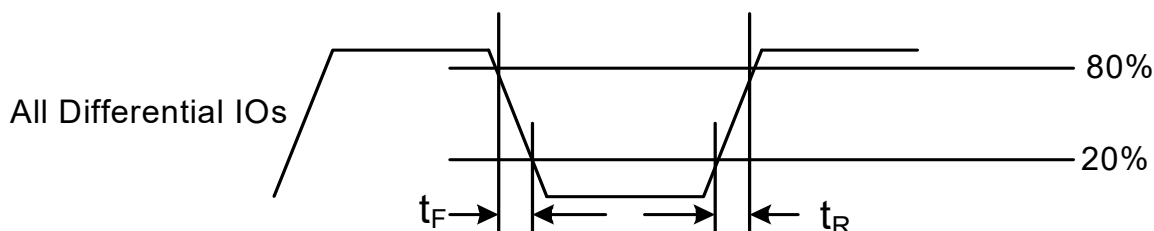

Figure 2. Rise/Fall Time Measurement
| Output Rise and Fall Times (RD)   | t R , t F | Figure 2  | 24  | —    | —    | ps                |
| Output Rise + Fall Times  | t R , t F | Figure 2                             | 20                | 25            | 30              | ps                 |